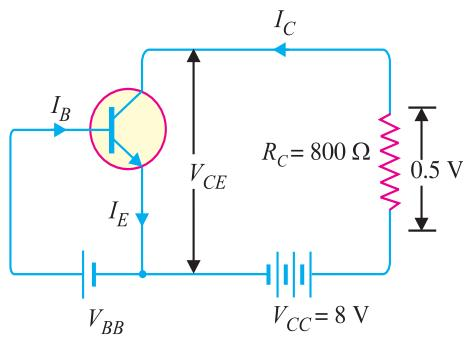

Fig. 8.22
**Example 8.12.** A transistor is connected in common emitter (CE) configuration in which collector supply is 8V and the voltage drop across resistance  $R_C$  connected in the collector circuit is 0.5V. The value of  $R_C = 800\Omega$ . If  $\alpha = 0.96$ , determine :
**Solution.** Fig. 8.22 shows the required common emitter connection with various values.